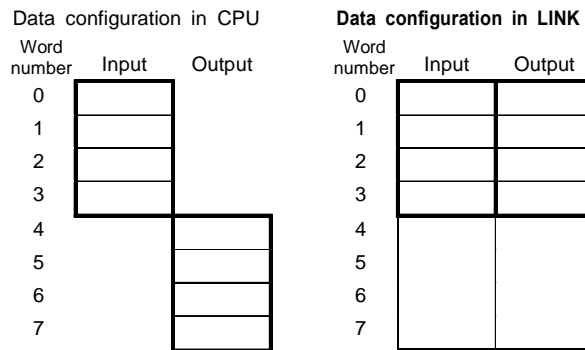

Figure 4.3.6 Data configuration with the I/O assignment
- 10) In the case of I/O assignment "X4Y4W", output area is done data compaction in the module, and assignment becomes the word number 0 to 3 shown to Figure 4.3.6. But there are not the word numbers 4 to 7 in the module, the area transmit zero data by the link communication.